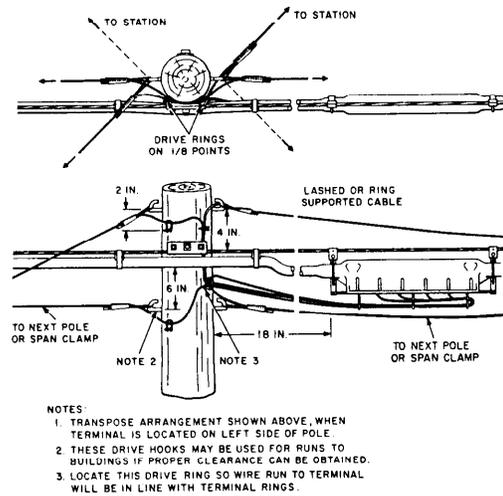

Fig. 1 - Strand Mounted Terminal
- 2.02 The wiring arrangements for strand mounted and pole mounted terminals are indicated in Fig. 1, 2, and 3.